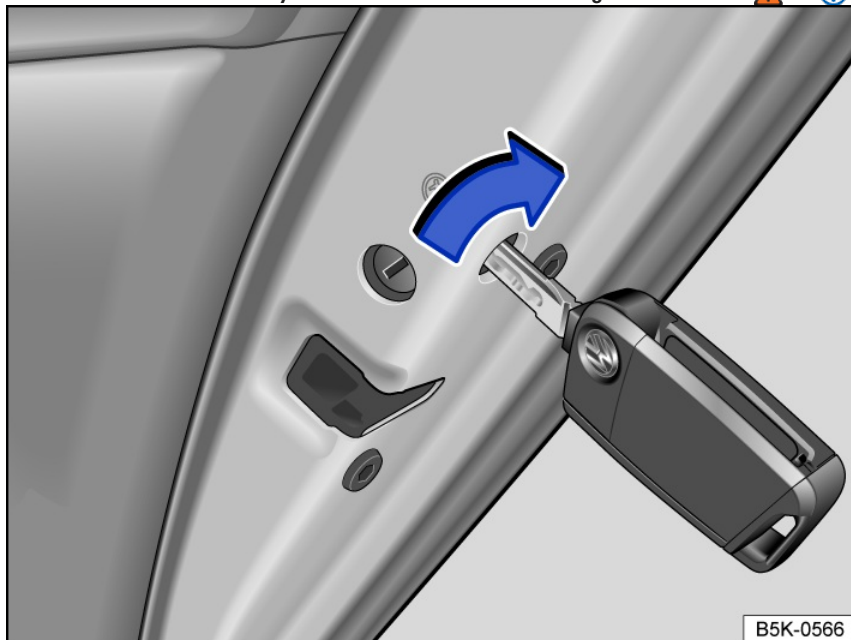

Fig. 58 On the front of the right rear door: manually locking the vehicle with the vehicle key.
- Insert the key bit or emergency key into the slot and turn it *fig. 58*.